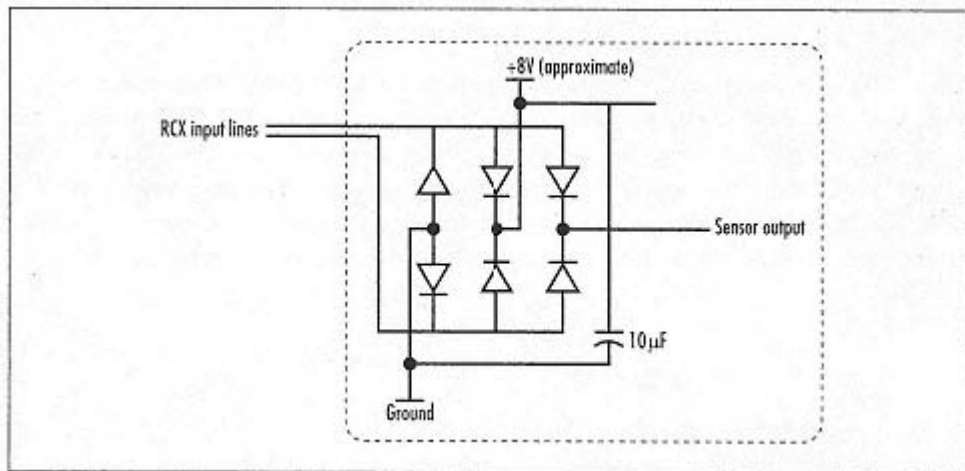

Figure 11-5.
so that it doesn't matter which way the active sensor is attached to the input on the RCX. Figure 11-5 shows how to set up the diodes.*
Remember, power is only applied for 3 ms at a time, punctuated by .1 ms sensor readings. You will need to smooth out the power supply with a capacitor, as shown in Figure 11-5.
*The signal splitter is really a combination of two circuits, a *bridge rectifier* and a *current router*. The bridge rectifier ensures that power is correctly supplied to the active sensor; it consists of the left four diodes in Figure 11-5. The current router ensures that the sensor signal is supplied with the correct polarity to the input on the RCX. The right two diodes in Figure 11-5 make up the current router.
This chapter has presented some simple sensors you can build yourself, but there are many other possibilities. Michael Gasperi's web site (listed in the "Online Resources") has several outstanding ideas. Once you've built the signal splitter (Figure 11-5), you can attach any old electronic circuit to the RCX's inputs. Michael Gasperi has built several interesting sensors based around the use of operational amplifiers (op amps).